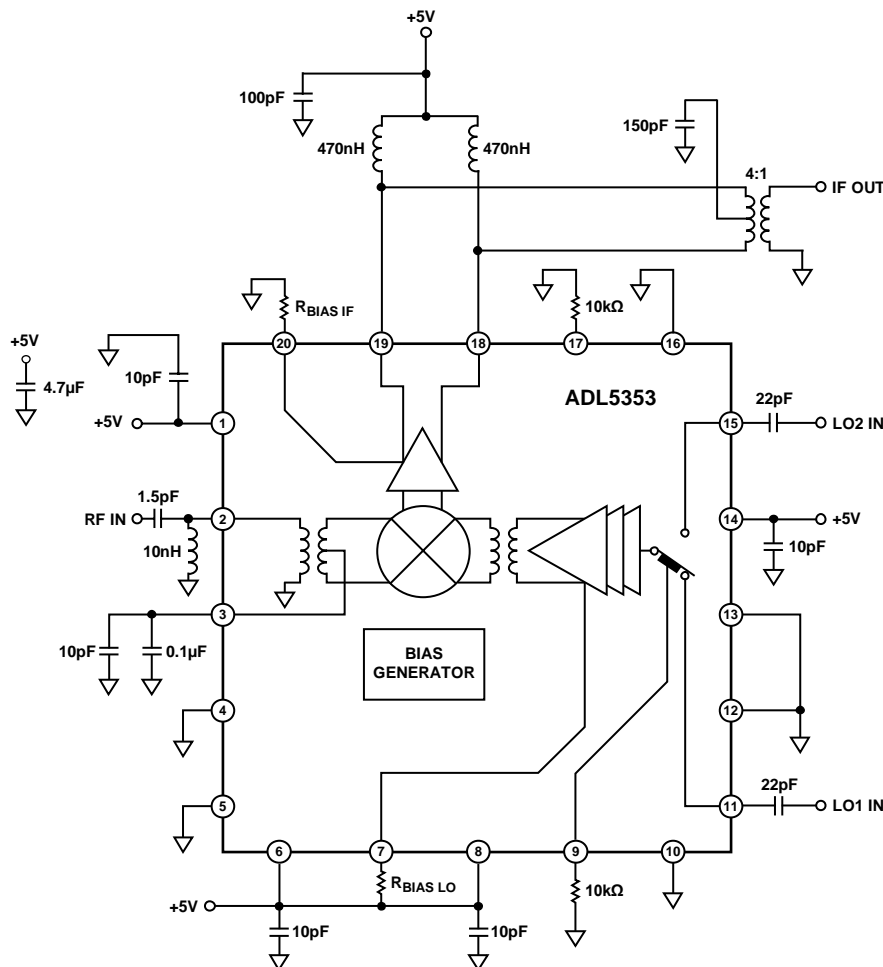

Figure 50. Typical Application Circuit
The ADL5353 mixer is designed to downconvert radio frequencies (RF) primarily between 2200 MHz and 2700 MHz to lower intermediate frequencies (IF) between 30 MHz and 450 MHz. Figure 50 depicts the basic connections of the mixer. To prevent nonzero dc voltages from damaging the RF balun or LO input circuit, ac couple the RF and LO input ports. The RFIN matching network consists of a series 1.5 pF capacitor and a shunt 10 nH inductor to provide the optimized RF input return loss for the desired frequency band IF Port.
need for a transformer. This results in a voltage conversion gain that is approximately 6 dB higher than the power conversion gain, as shown in Table 3. When a 50 Ω output impedance is needed, use a 4:1 impedance transformer, as shown in Figure 50.